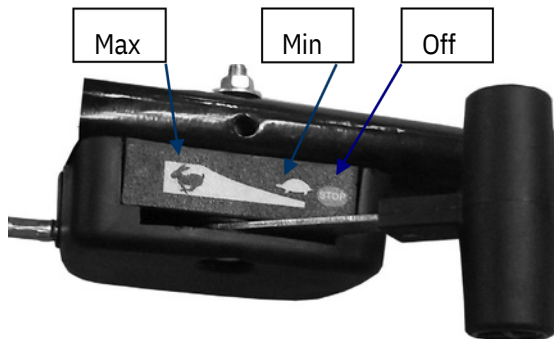

Figure 9
- Method of confirming speed and adjustment of it (See Fig.9)